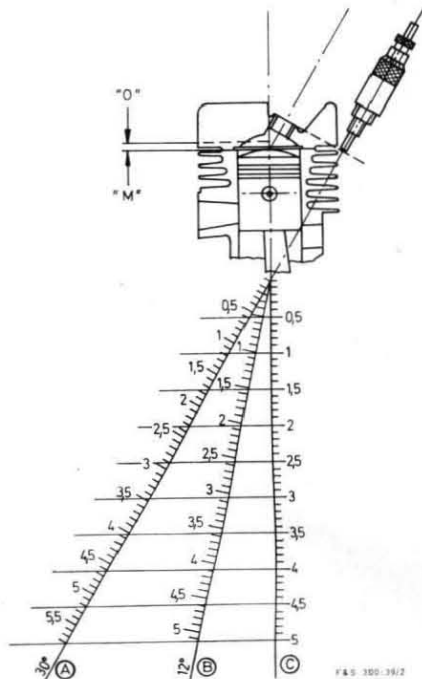

Fig. 45
Therefore a correspondingly higher value has to be adopted, as shown in Fig. 45, 30° scale (A).